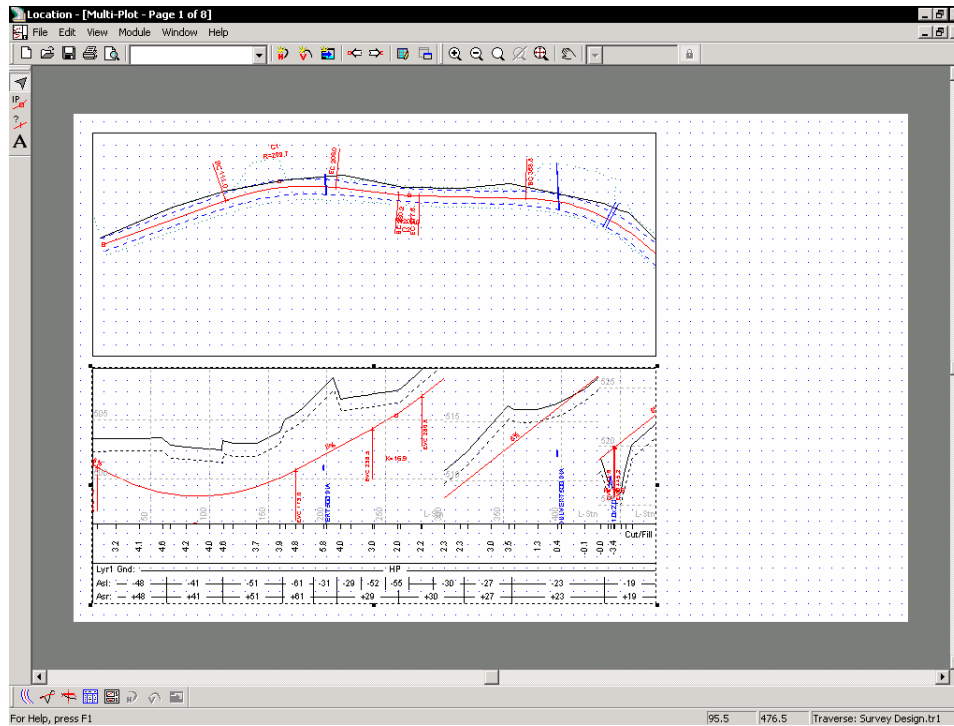

Figure 9.3: Multi-Plot Page 1 After Loading Screen Layout.
The Multi-Plot Window should now resemble Figure 9.3 below.
3. File|Retrieve Screen layout. Double click on **\RoadEng\Tutorial\Location\output plan over profile.DLT**. Maximize the Multi-Plot Window. The screen will appear like Figure 9.3 in the previous section
Maximize the Multi-Plot Window. Your screen will appear like Figure 9.3 in the previous section